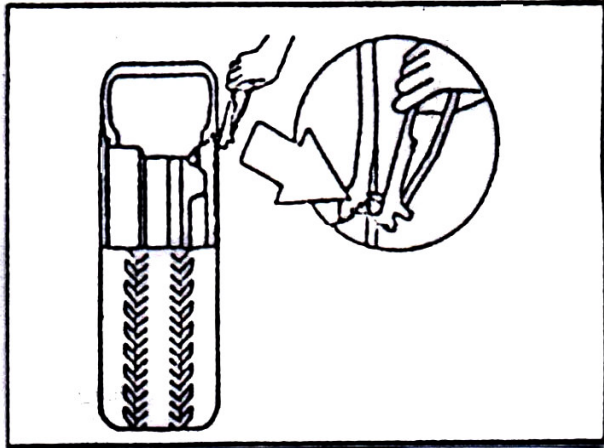

FIG 3
3.1.1 Deflate the air in the tire completely. Use the special tool to detach the weight on the rim and pull out the core (FIG 3).